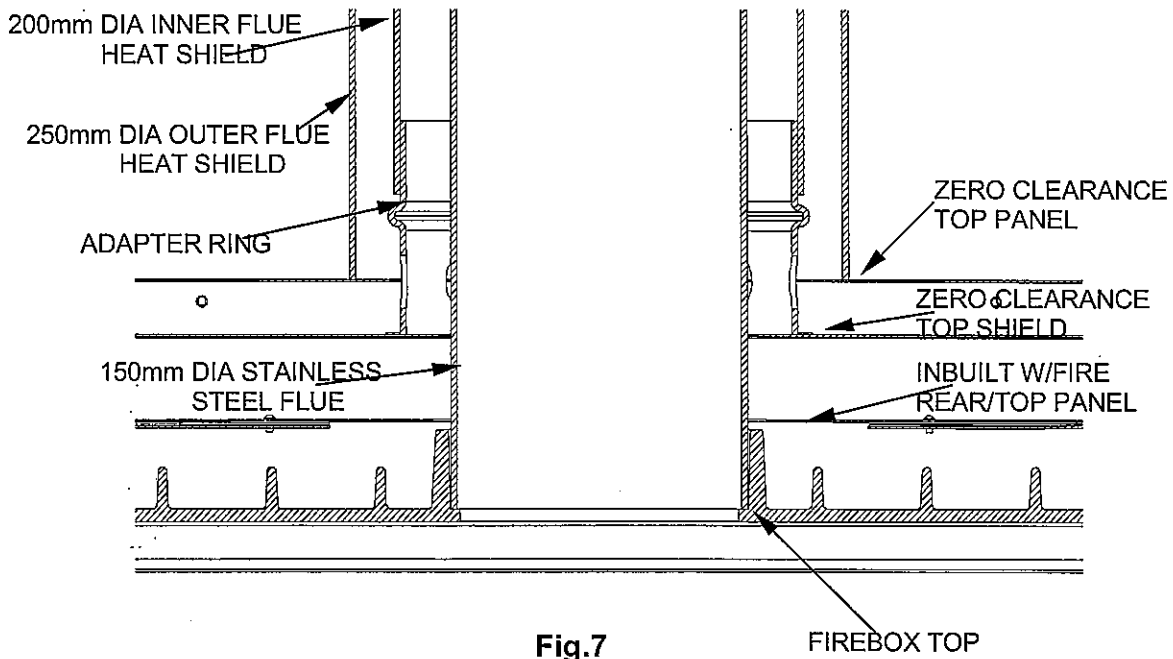

Fig.7
8. Penetrate the roofing material on the flue centreline. Working from the bottom, assemble sections of the flue and the inner and outer flue heat shields (casings) and pass them up through the hole in the roof. The flue must be fixed at each joint with at least two rust-proof fasteners, and the crimped ends of the flue heat shields go to the top. When finally installed, the inner shield must extend up past the roof penetration point and the outer shield must be sufficiently high to avoid down-draughts in the finished flue. If the flue centreline is within 3m of the ridge, the outer shield must end at least 600mm above the roof ridge. If it is more than 3m from the ridge, the shield must extend at least 900mm above the point of roof penetration. If there are trees or high buildings in the vicinity, it may be necessary to increase this height to avoid down-draughts. Note that the 200mm adapter ring (with holes which ventilate the space between the flue and the inner shield) will be fitted into the shielding box assembly and will engage in the bottom of the inner heat shield (see Fig. 7). Fit a temporary support to hold the flue system high enough to permit sliding in the shielding box.